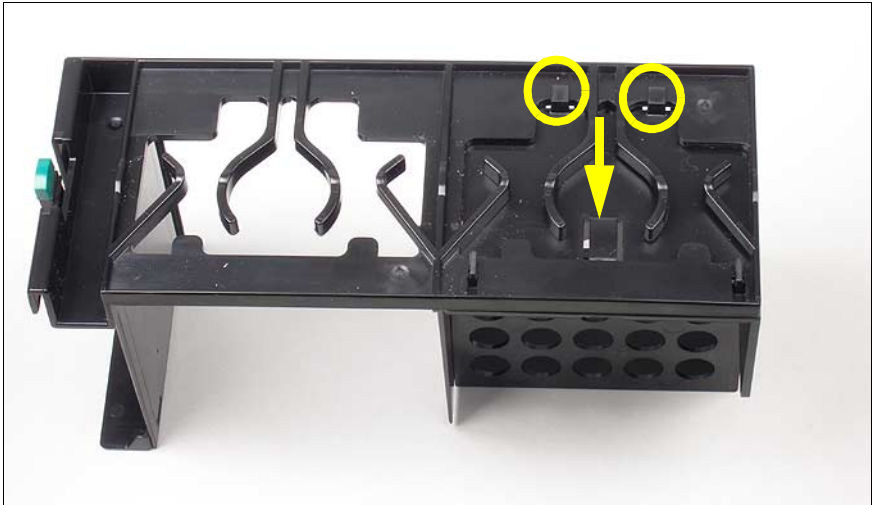

Figure 19: Removing the dummy cover for the processor fan
- ▶ Remove the dummy cover from the heat sink holder (see figure 19 on page 34):